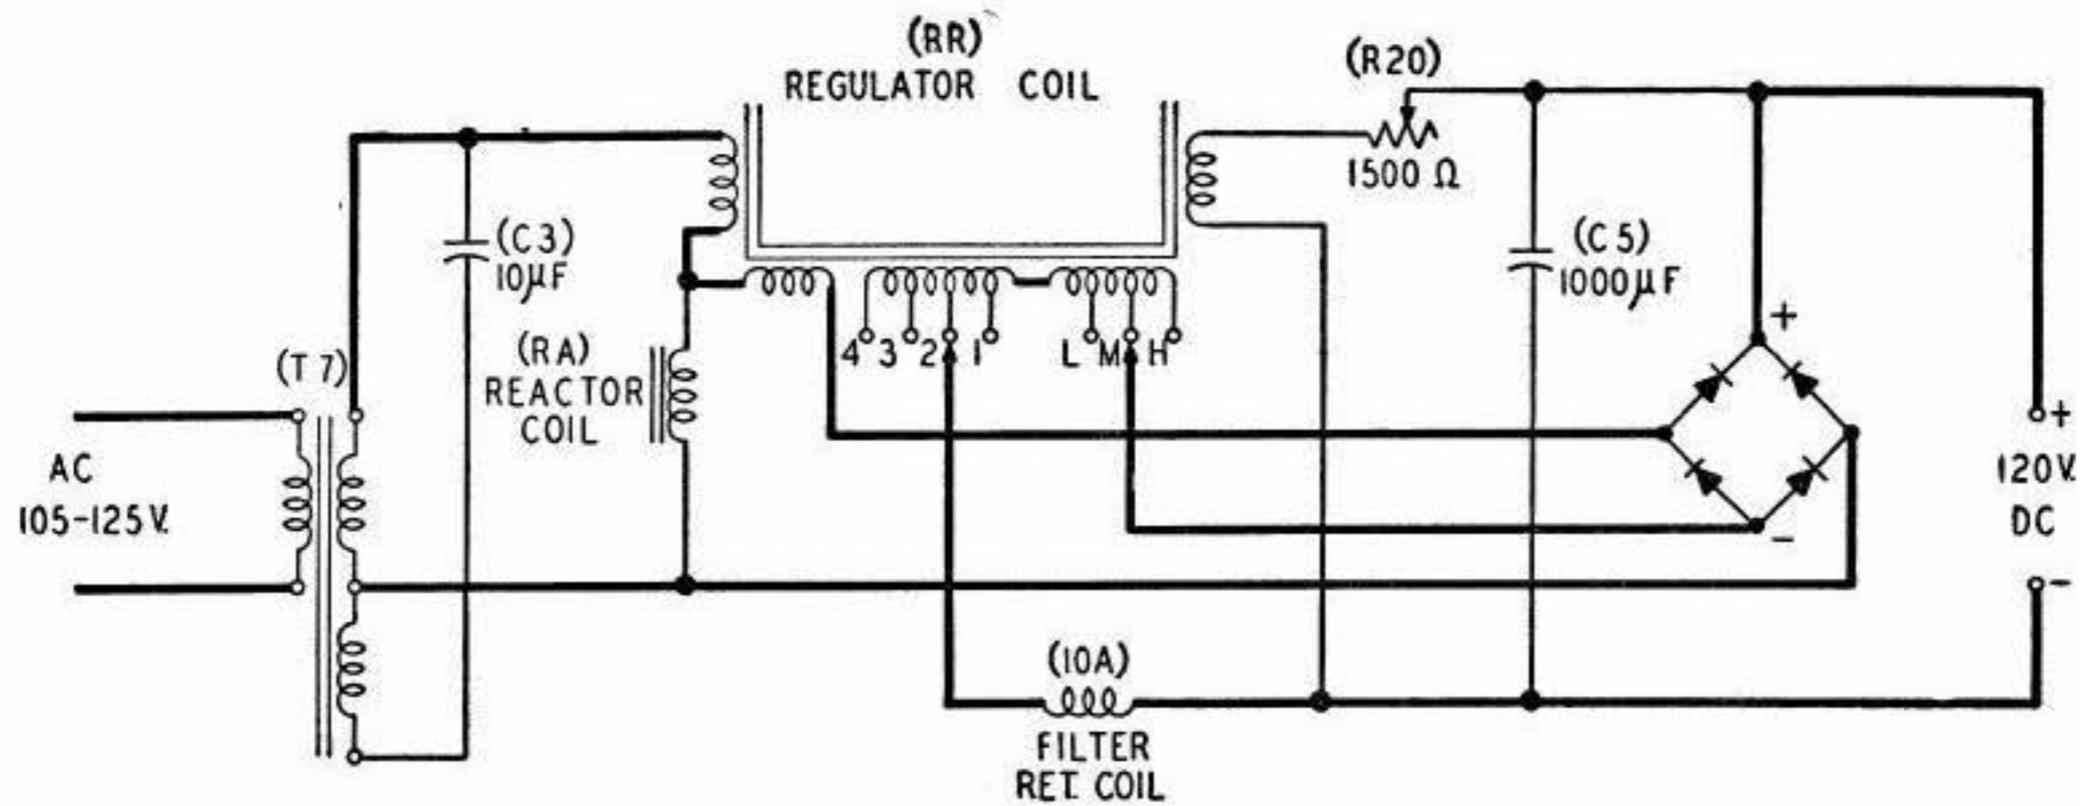
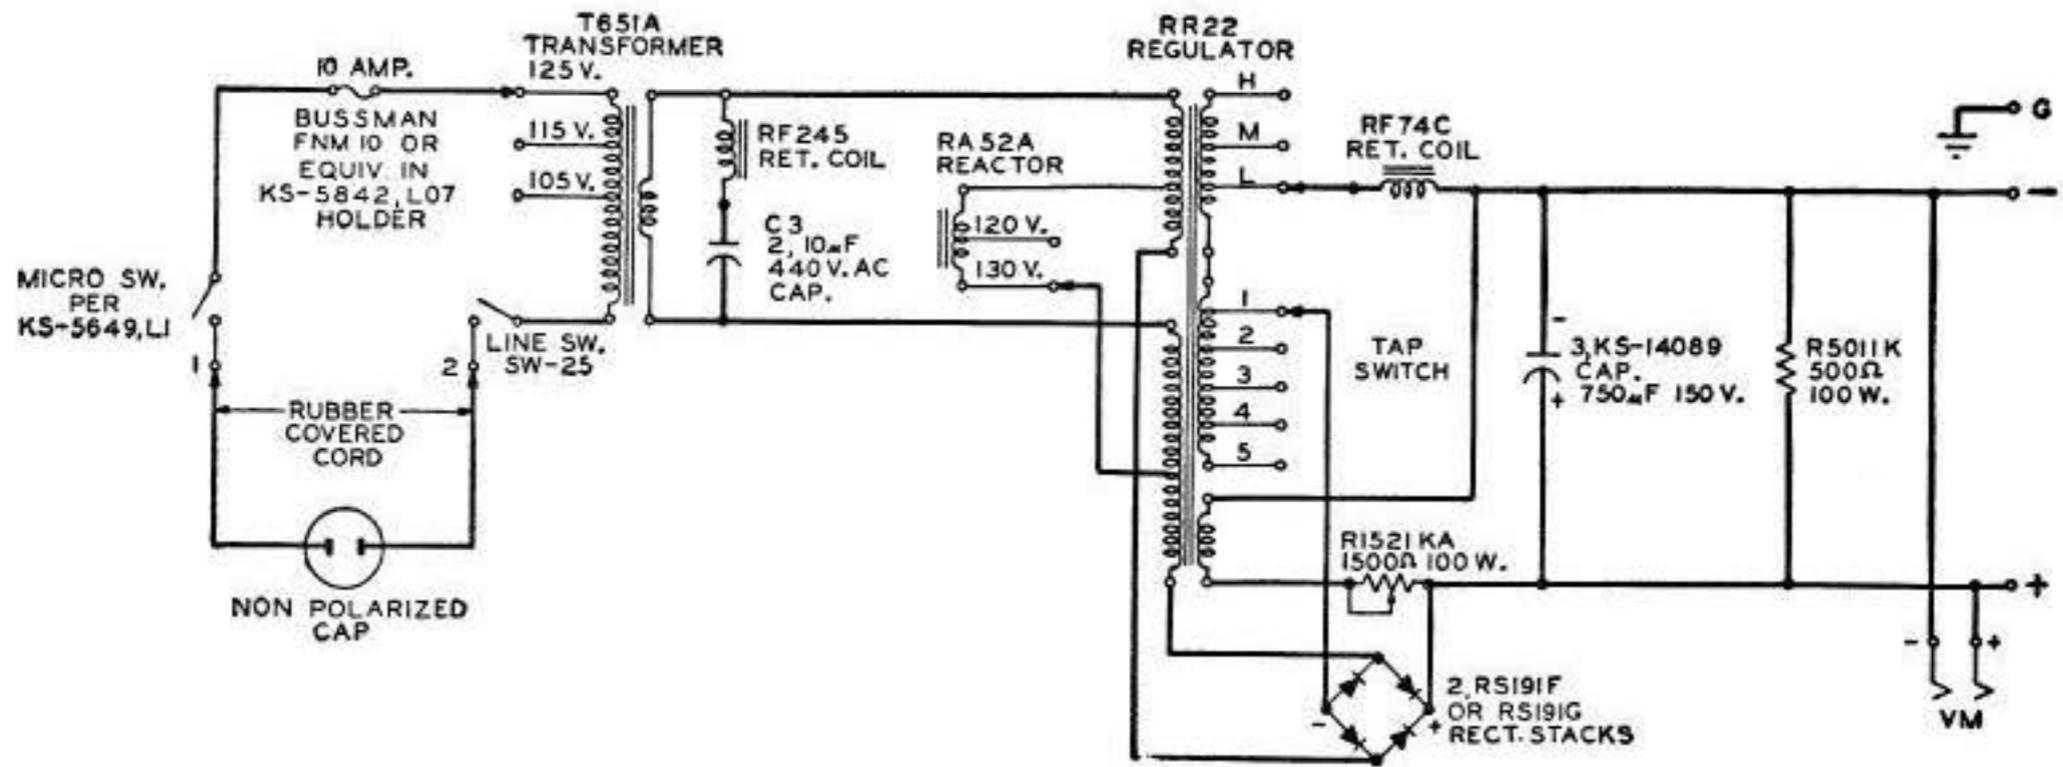
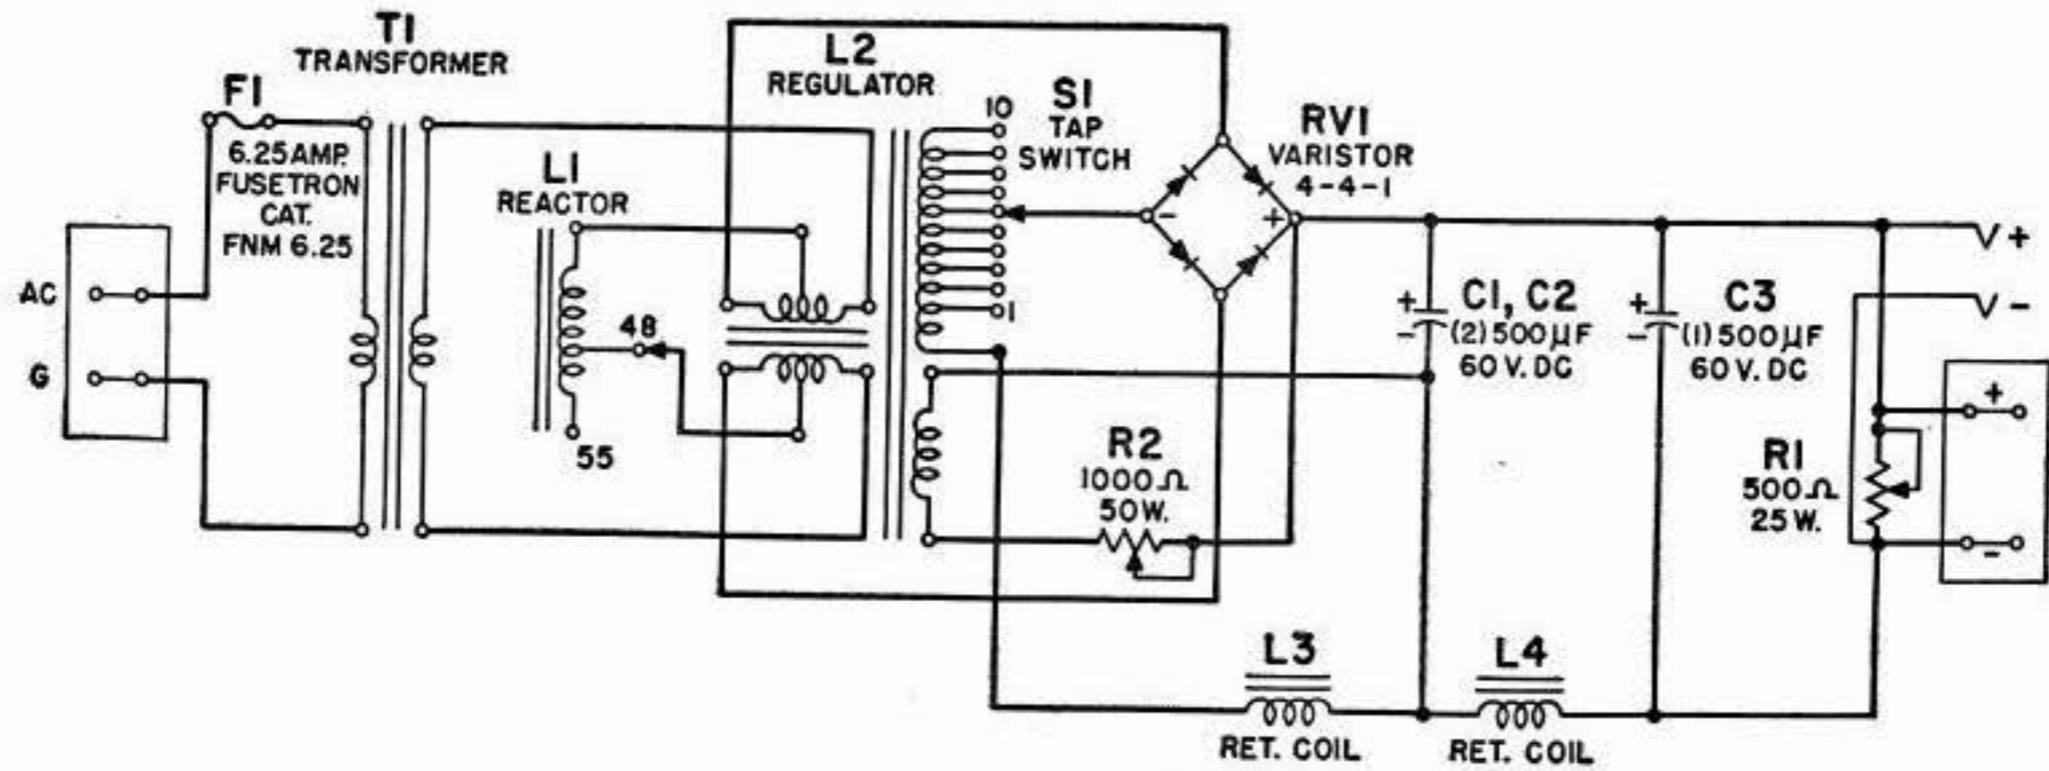

Fig. 1—Theory of Operation of KS-5928-L1, L2 and L3 Rectifiers
Fig. 3—KS-15523-L1—Circuit Schematic
Fig. 5—KS-15620-L1 Circuit Schematic
Description of KS-5928-L1, L2 and L3 Rectifiers (Fig. 1)
Description of KS-15523-L1 Rectifier (Fig. 3)
3.08 Although the circuit details of this rectifier differ somewhat from those of the KS-5928-type rectifier shown in Fig. 1, the general method of obtaining regulation is the same. For example, the schematic of Fig. 3 indicates that capacitor C3 is for power factor correction as well as to aid in the regulation, that the regulator coil RR22 has reactive windings in series with the ac circuit to the rectifier elements and dc windings in series with the load. The 1500-ohm rheostat is for adjustment of the output voltage. These features are all identical with those of the KS-5928-type rectifier described in Paragraph 3.03.
Description of KS-15620-L1 and L3 Rectifiers (Figs. 5 and 7)
3.14 These rectifiers are similar in theory of operation to the KS-5928-L1, L2 and L3 shown in Fig. 1. The regulation is obtained by the use of a regulator coil L2 (Figs. 5 and 7). The dc load current is passed through a winding of this coil with adjustable taps (tap switch S1). As the dc load increases the dc tends to saturate the magnetic core, thus reducing the impedance of the two ac windings which are in series with the reactor coil L1. This tends to keep the dc output voltage constant with change of load. Rheostat R2 is for adjustment of the output voltage. Rheostat R1 is for the purpose of supplying a dummy load (approximately 15 ma) to stabilize the output voltage for cases where the real load might drop to a very small value.